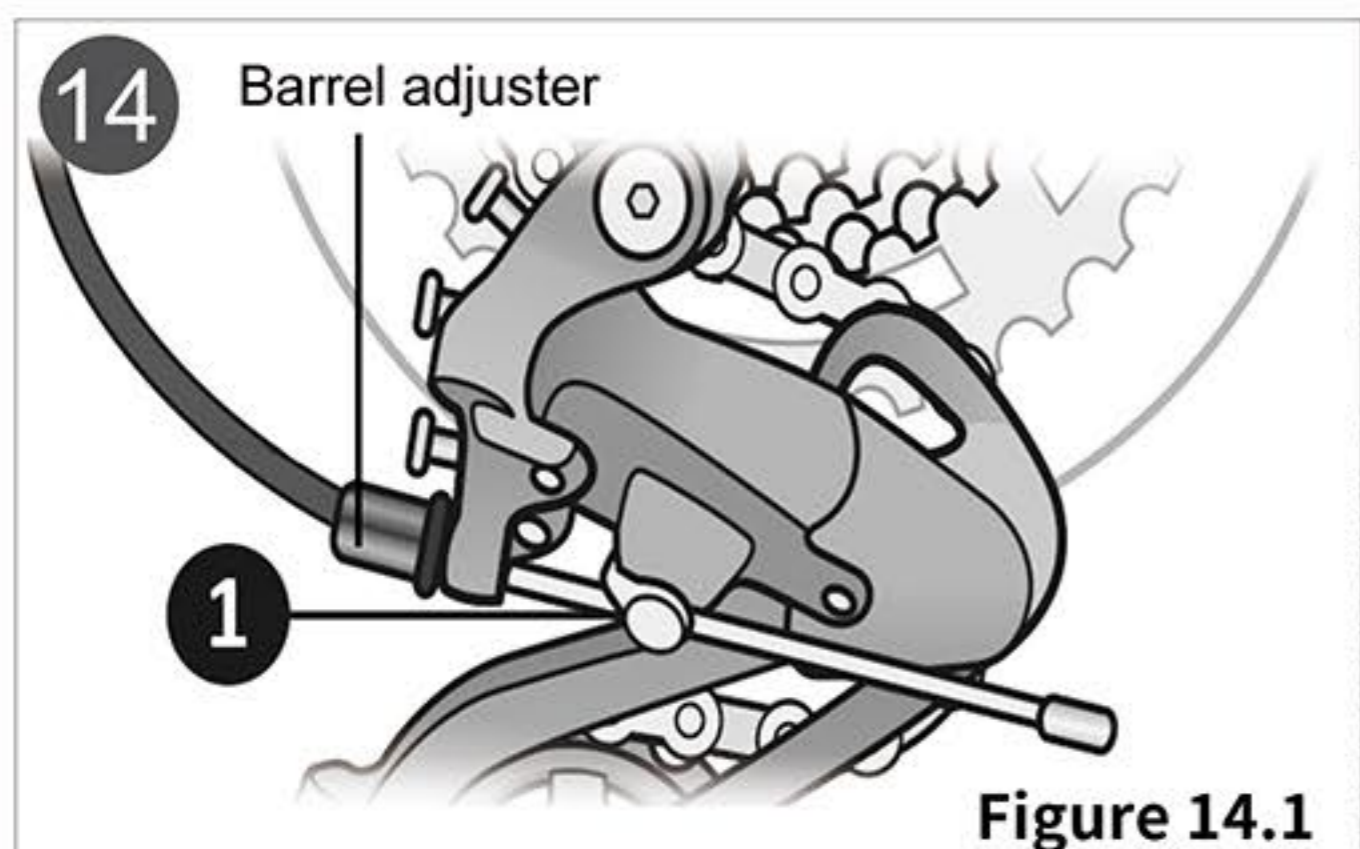

Figure 14.1
- ①. Shift the rear shifter to largest number indicated, disconnect the rear derailleur cable from the cable anchor bolt and place the chain on the smallest sprocket. Figure 14.1